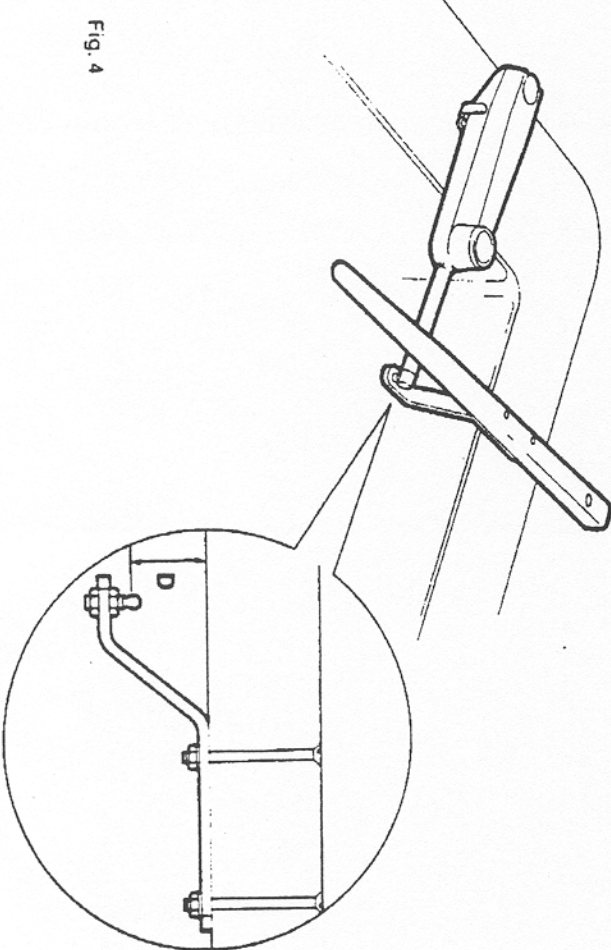

Fig. 4
**TILLER BRACKETS (Figs. 4 and 5)**